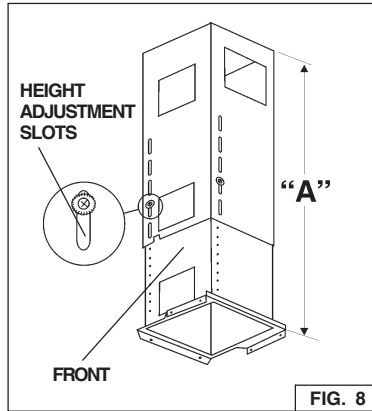

FIG. 8
2. Remove (4) screws and washers in the height adjustment slots. Figure 8.
3. Per the chart, adjust overall length of the support frame. Figure 8.
4. Reinstall (4) screws and washers in the height adjustment slots. Figure 8.